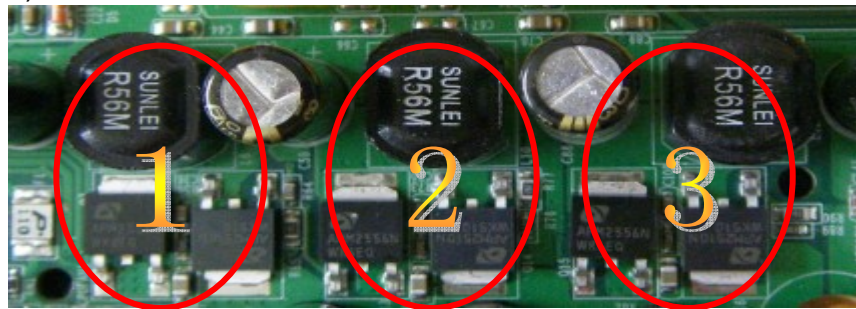
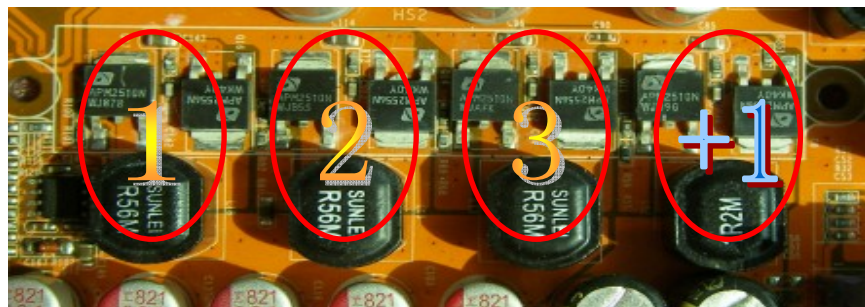

Figure 1
Figure 2
2. 3- Phase Power Supply Mold: motherboard with 3 inductances for CPU power supply, and each inductance carries with it 2 MOSFET (6 MOSFETs in total) (Figure1); 3+1–Phase Power Supply Mold: motherboard with 4 inductances for CPU power supply, and each inductance carries with it 2 MOSFET (8 MOSFETs in total) (Figure2).